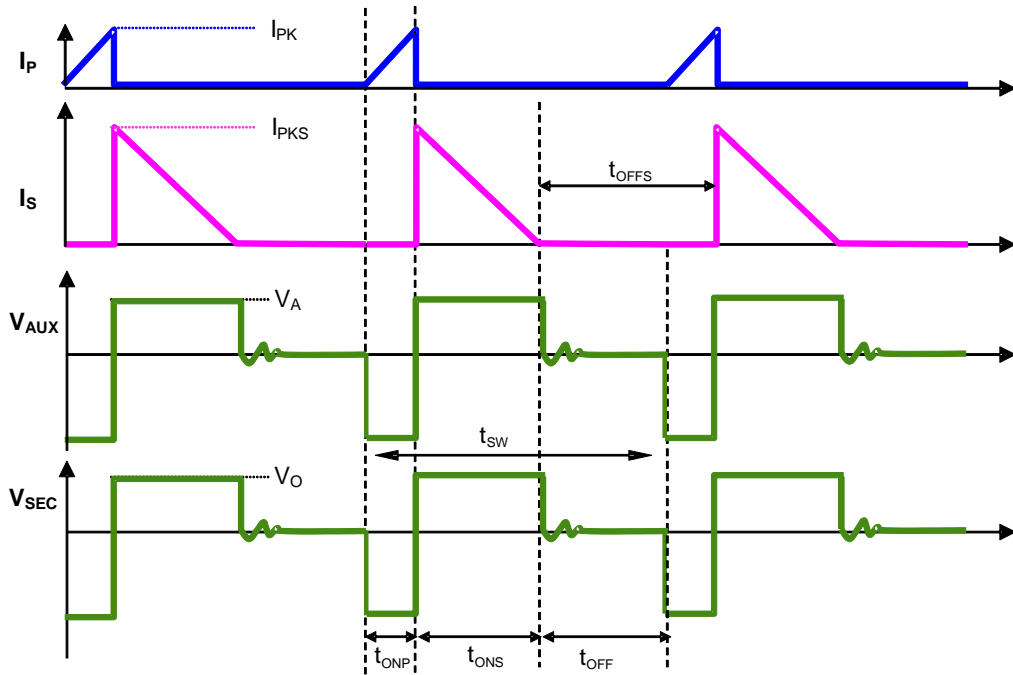

Figure 2. The Operation Waveform of Flyback PSR System
The AP3987CT can work in Constant Current (CC) mode. Figure 2 shows the secondary current waveforms.
As illustrated in Figure 2, when the current  $i_p(t)$  rises up to  $I_{PK}$ , the switch Q1 turns off. The constant peak current is given by: